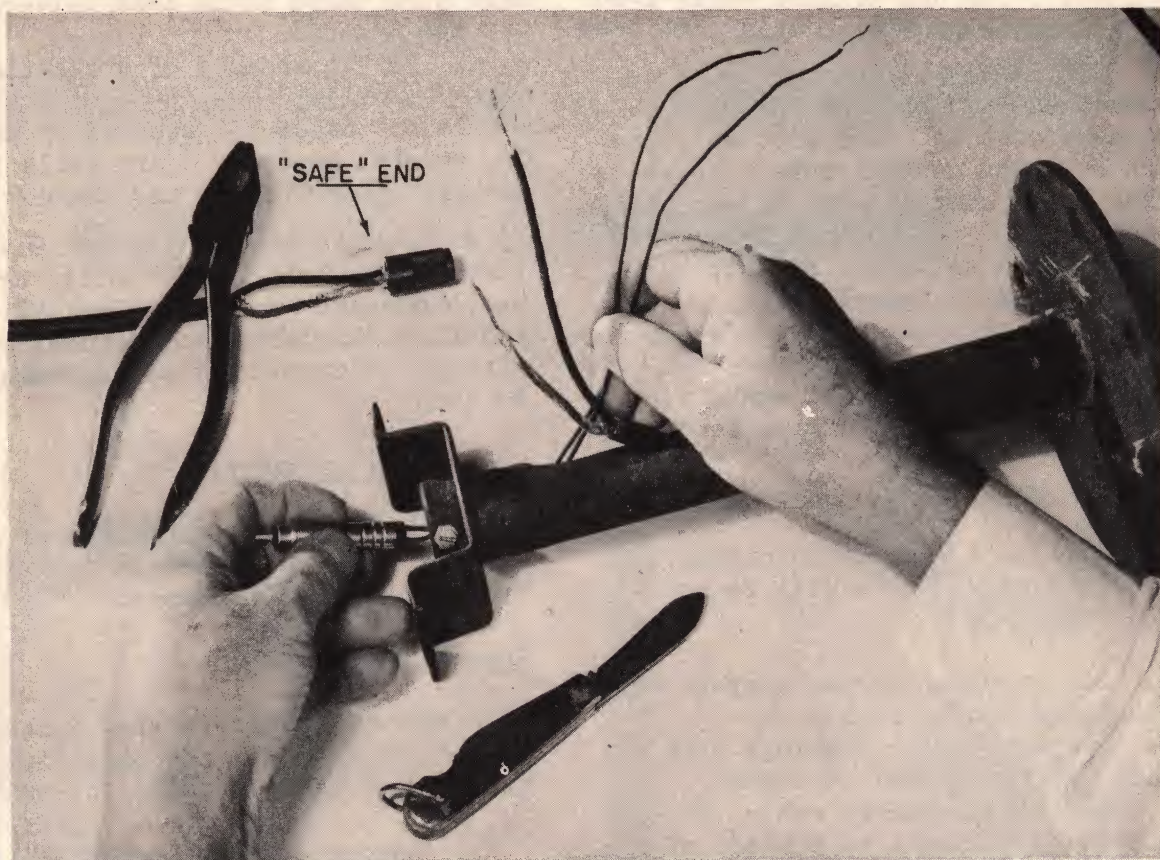

Figure 4 - Installing Detonator. Shows Shorted "Safe" End.
2. Assemble the detonator holder, placing it on a surface where it cannot roll, fall, or be subjected to a shock. See Figure 4.
(d-1) Thread the wires into the detonator socket, out through the slot in the tube, and cut off all but about a foot. See Figure 4.